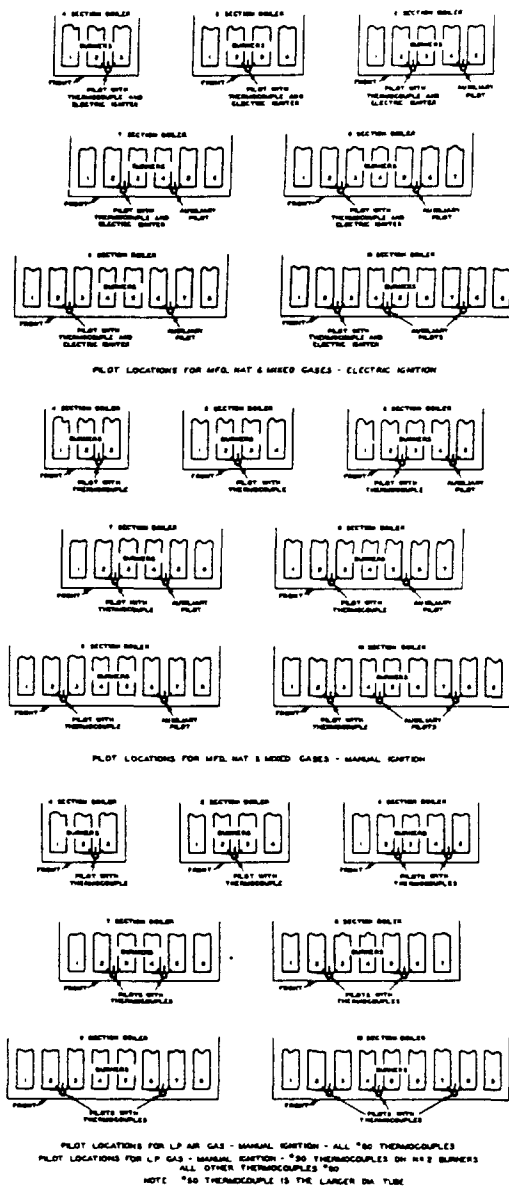

FIG. 5—Burner and Pilot Locations
3. See that air shutter is assembled on each mixer tube, then place mixer tubes firmly on spud holders and burner support. Assemble main burners on tapered ends of mixer tubes so they are straight and level. (See Figs. 5, 6, 7 and 8).